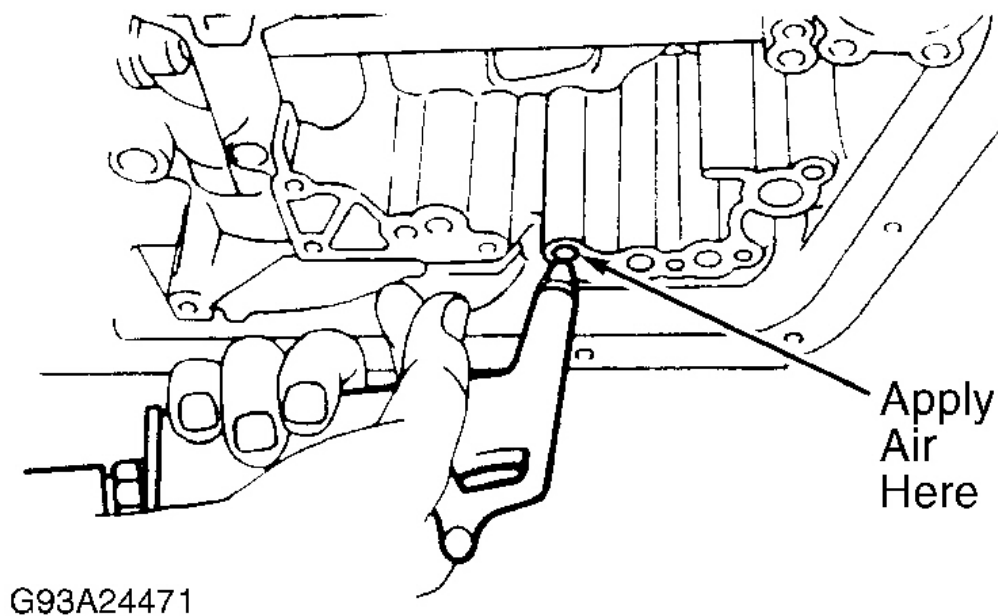
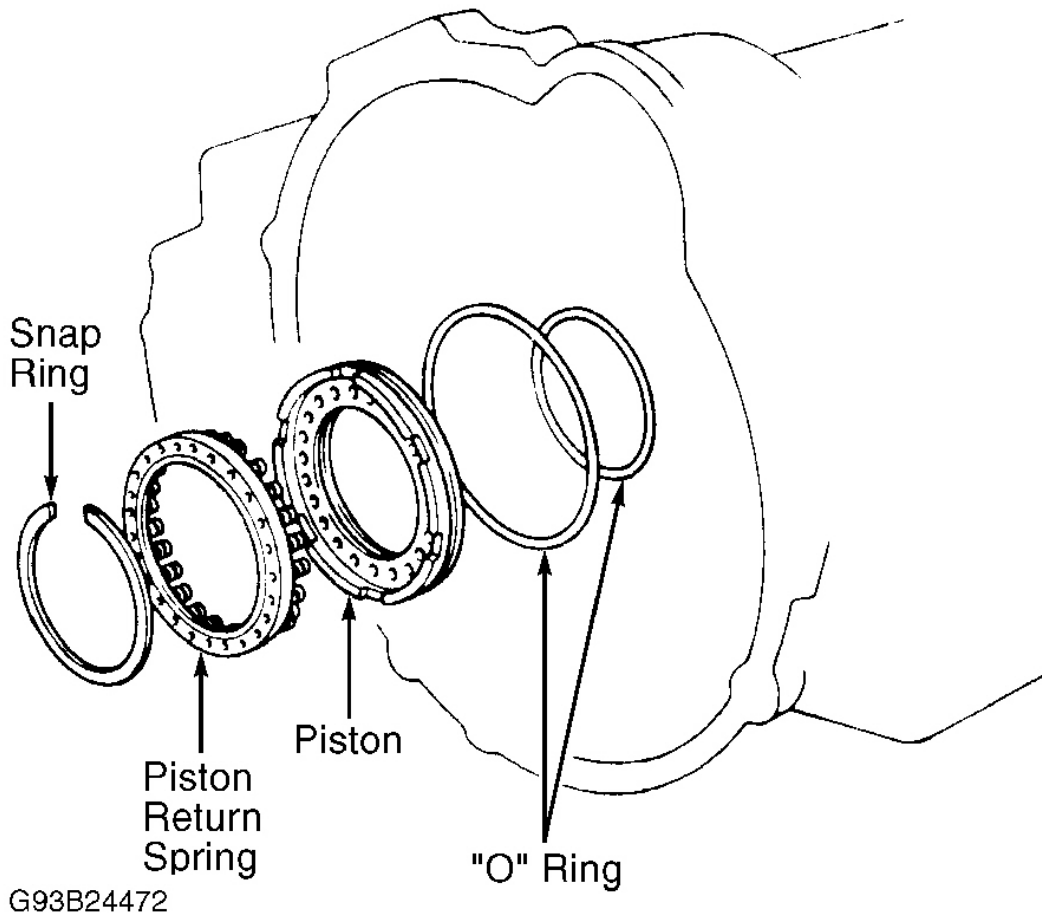

Fig. 12: Removing 1st & Reverse Brake Piston
Fig. 13: Exploded View Of 1st & Reverse Brake Piston
gasket. Remove No. 2 one-way clutch snap ring. Remove No. 2 one-way clutch and rear planetary gear. Remove thrust washers from both sides of planetary gear. Remove rear planetary ring gear, races and thrust bearings. Using compressed air, confirm 1st and reverse brake piston moves smoothly. See **Fig. 12**.
9. Remove flange snap ring. Remove flange, plates and discs. Note number and location of components. Remove transaxle rear cover bolts. Tap rear cover using a plastic hammer. Remove cover. Remove intermediate shaft. Remove snap ring. Using appropriate spring compressor, remove snap ring and piston return spring from transaxle case. Apply compressed air into oil passage. Remove 1st and reverse brake piston. See **Fig. 12** and **Fig. 13**.